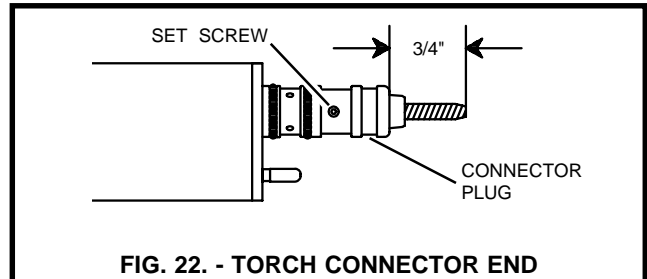

FIG. 22. - TORCH CONNECTOR END
4. Loosen set screw located on the connector end of the torch assembly (see FIG. 22).
5. Tighten set screw. (Do not over-tighten), refer to FIG. 22.